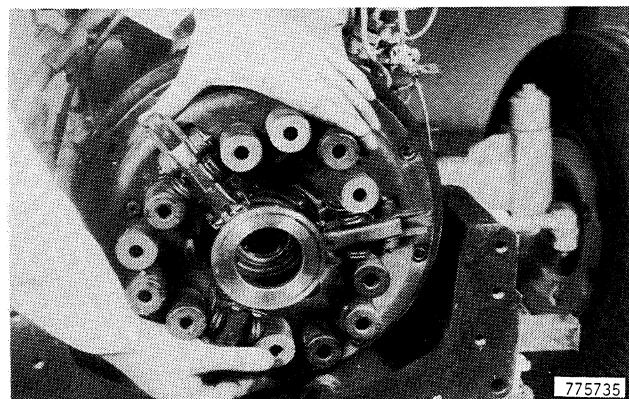

Figure 114
- 19. Install the clutch with guide pins in alignment, Figure 114.